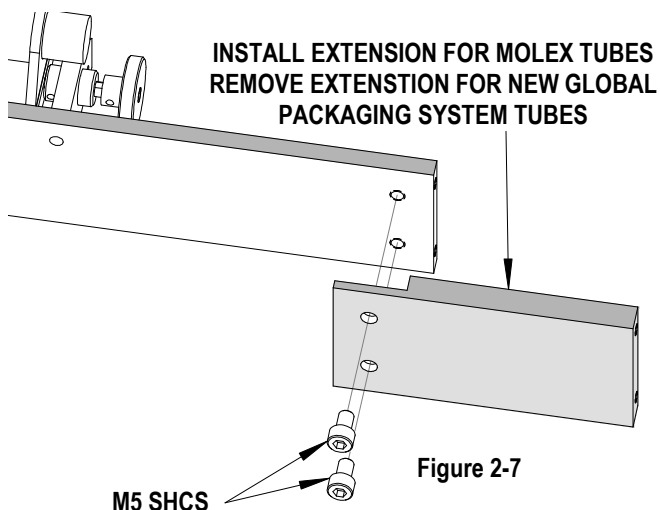

Figure 2-7
3. If GPS tubes will be used, remove the two (2) M5 screws that hold the extension. See Figure 2-7.